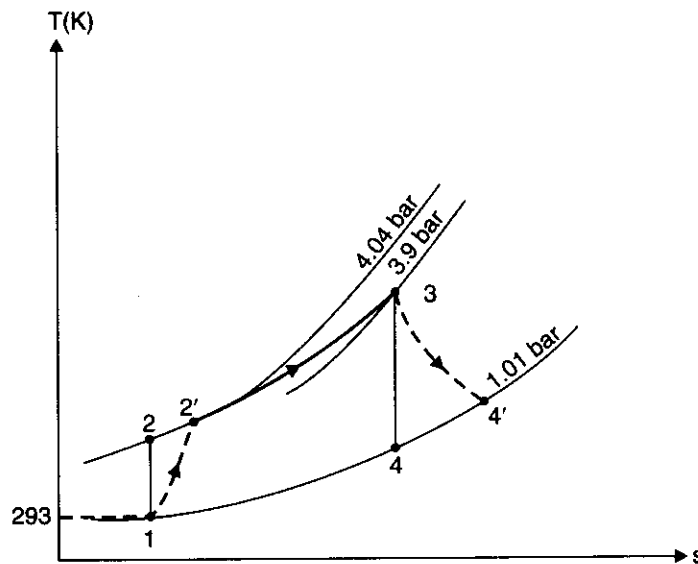

Fig. 13.65
**Solution. Simple Cycle.** Refer Fig. 13.65.